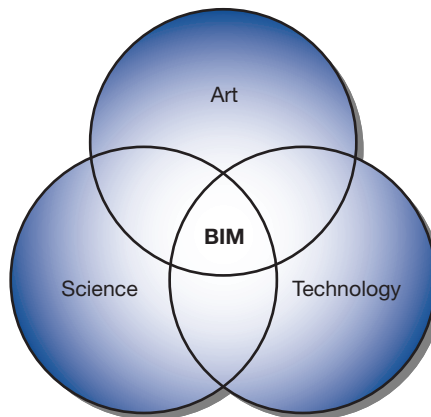

Figure 3.8 Ideally, BIM occurs at the sweet spot of its overlapping cultures.
**JH:** If my best friend doesn't know anything about cars, I'm going to go to the mechanic rather than my best friend. It makes sense to go to someone who knows what they've been through before. And hopefully keep me from stepping in the holes that might be there. (See Figure 3.8.)